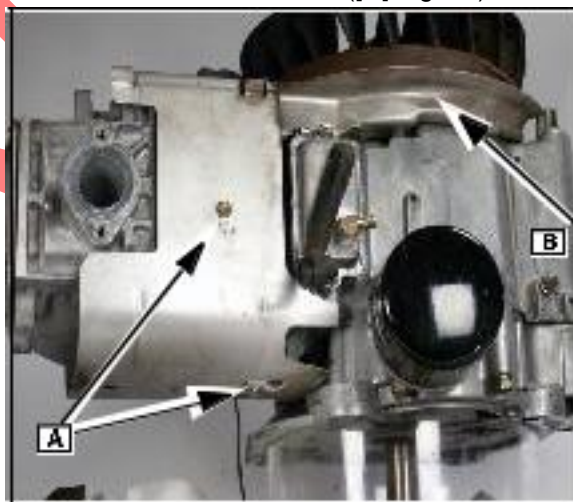

Fig. 21
1. Remove the two bolts ([A] Fig. 21).
NOTE: The blower housing support/baffle plate ([B] Fig.21) must be removed after the flywheel is removed. **SEE SECTION 3-BLOWER HOUSING REMOVAL.**